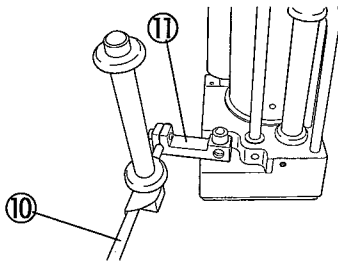

Fig. 2-14
Note: In case that want to install ACCU-10 to the right side of the sewing machine, remove the guide stopper⑬. Then, remove the process indicator⑭ and the switch holder⑮ from the supporting bar⑩. (Fig. 2-14)
5. Install the knee switch holder⑰ onto the bottom of the table with the wood screw⑱ by referring to Fig. 2-14. Then, install the knee switch (process shifting switch)⑯ onto the knee switch holder⑰.